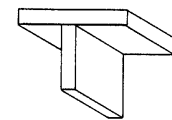

Figure 2.7
2. Position the metal so that the joint to be welded is in the overhead position. (See Figure 2.7.)